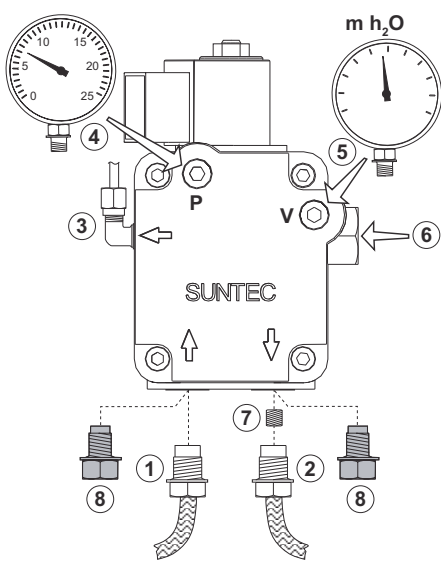
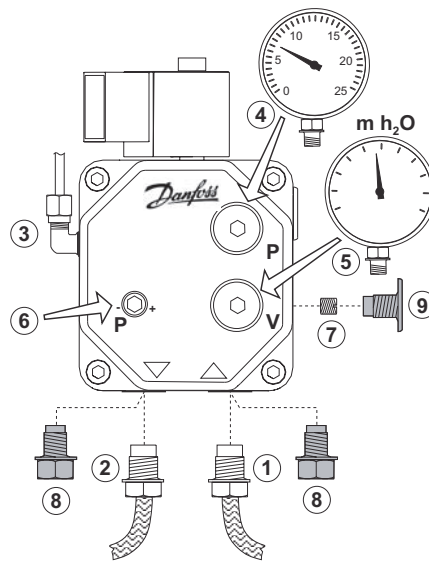

fig. 4a - Pump Suntec
fig. 4b - Pump Danfoss
The burner leaves the factory with the bypass inside the pump closed (ref. 7 - fig. 4a and 4b), i.e. the burner is arranged for two-pipe connection. Remove the caps (ref. 8) and connect the two hoses to the pump, in suction (ref. 1) and return (ref. 2) as shown in fig. 4a and fig. 4b, taking care not to twist the hoses, and position them so that they cannot be stepped on or come in contact with hot parts of the boiler.
with SUNTEC pump (see fig. 4a) - remove the bypass screw (ref. 7) and close the return union (item 2) on the pump with a suitable cap. Connect only the suction hose to the inlet union (ref.1).
with DANFOSS pump (see fig. 4b) - unscrew the cap (ref. 9), remove the bypass screw (ref. 7) and close again with the cap (ref.9). Connect only the suction hose to the inlet union (ref.1). Unscrew the cap (8) from the return union (ref. 2) and close the union on the pump with a suitable cap.